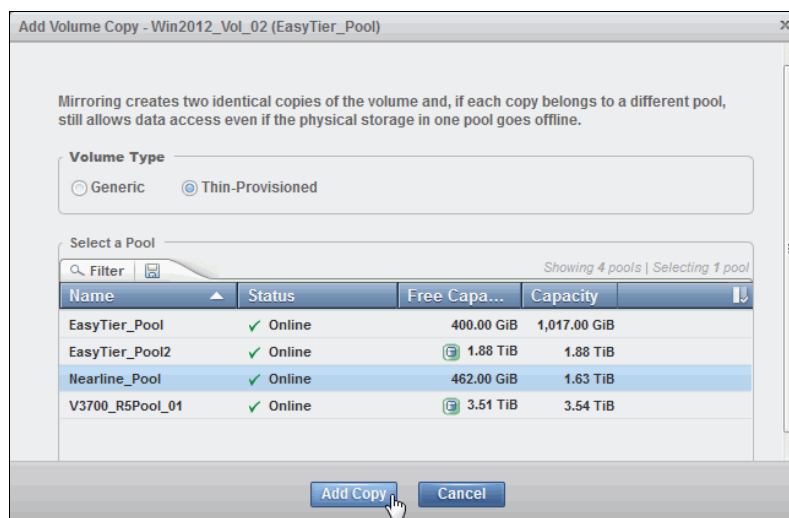

Figure 8-61 Select Storage Pool
2. Select if the volume should be Generic or Thin-Provisioned, select the Storage Pool in which the new copy should be created, and click **Add Copy**, as shown in Figure 8-61.